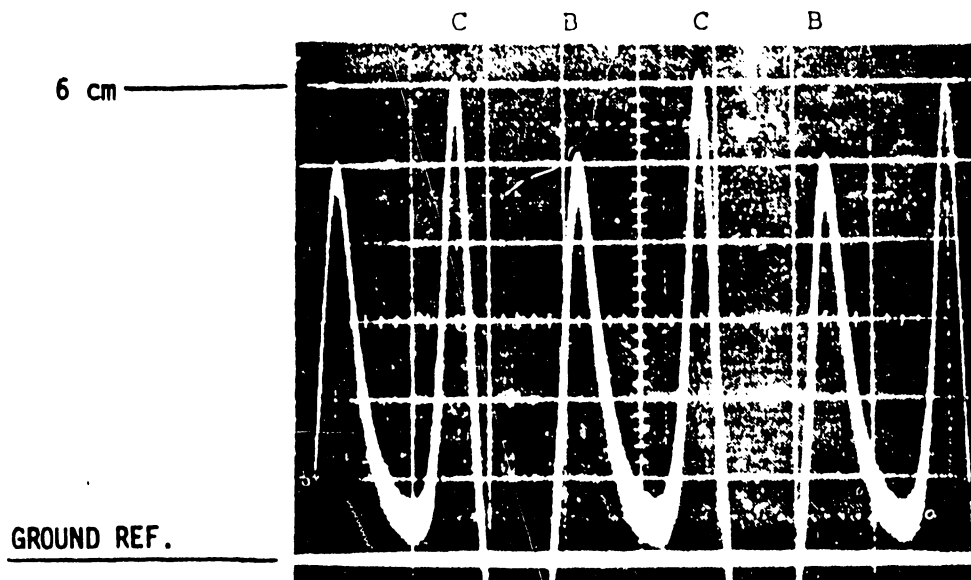

FIGURE 3-10 HEAD ALIGNMENT WAVEFORM - (Head Within One Track)
18. If the head is within one track of proper alignment, a waveform similar to Figure 3-10 will be obtained.